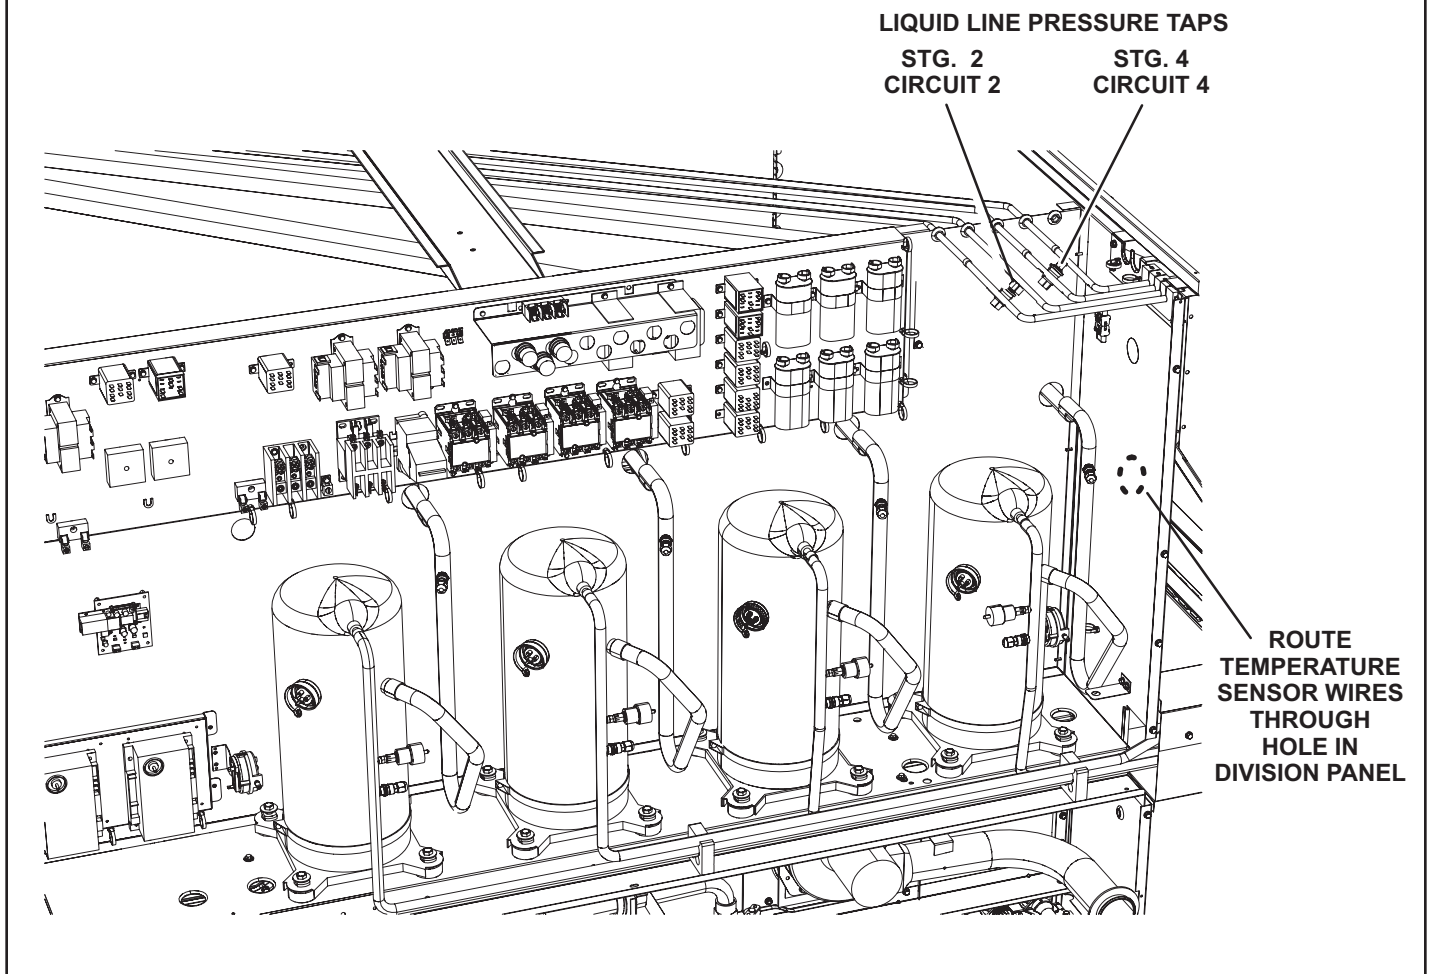

FIGURE 2
- 6 - Install the pressure transducers on compressor 2 (stg. 2) and compressor 4 (stg. 4). liquid line pressure tap as shown in figure 2.
- 1 - Route temperature switch wires through the division panel between the compressor and outdoor coil sections. See figure 2.